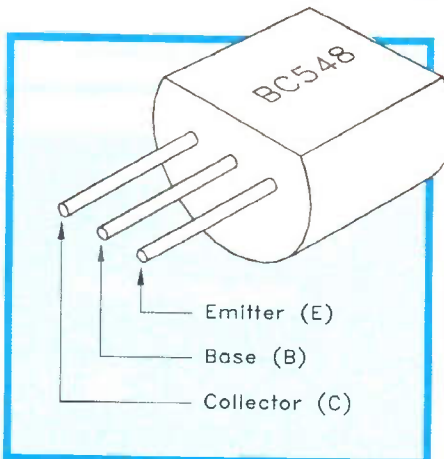

Figure 5. BC548 transistor circuit symbols and lead identification (TR1).
e) TR1 and TR2 should be fitted to the board next; these have a small black plastic body and three leadout wires. They are marked with their type number, which in each case is 'BC548'. Other markings may also be present; you will have to get used to picking out the important markings on chips and transistors (and ignoring the others!). You must ensure that TR1 and TR2 are fitted to the board correctly. Figure 5 shows which lead is which, making this task easy.